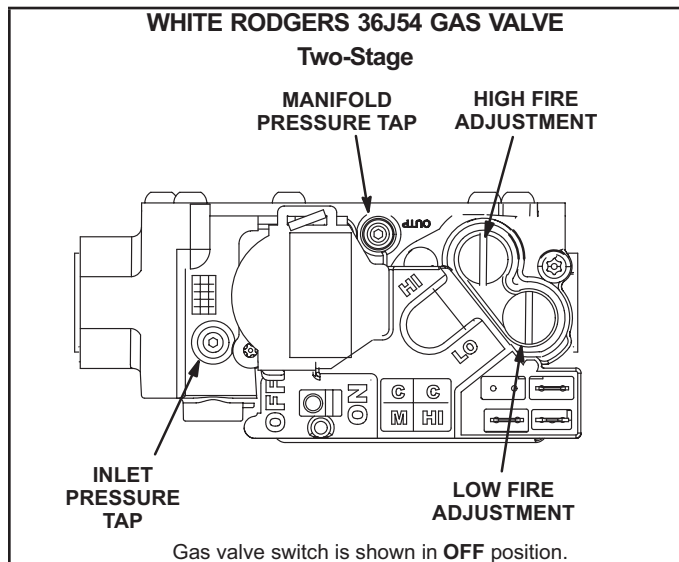

FIGURE 32
Gas Valve Operation (FIGURE 32)
- 5 - Move gas valve switch to **OFF**. See FIGURE 32.
- 6 - Wait five (5) minutes to clear out any gas. If you then smell gas, **STOP!** Immediately call your gas supplier from a neighbor's phone. Follow the gas supplier's instructions. If you do not smell gas, go to the next step.
- 7 - Move gas valve switch to **ON**. See FIGURE 32.